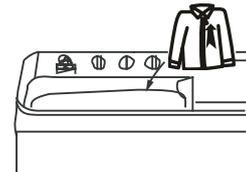

Figure 3
3. Put in the wash load. Add more water as necessary.(Figure3)